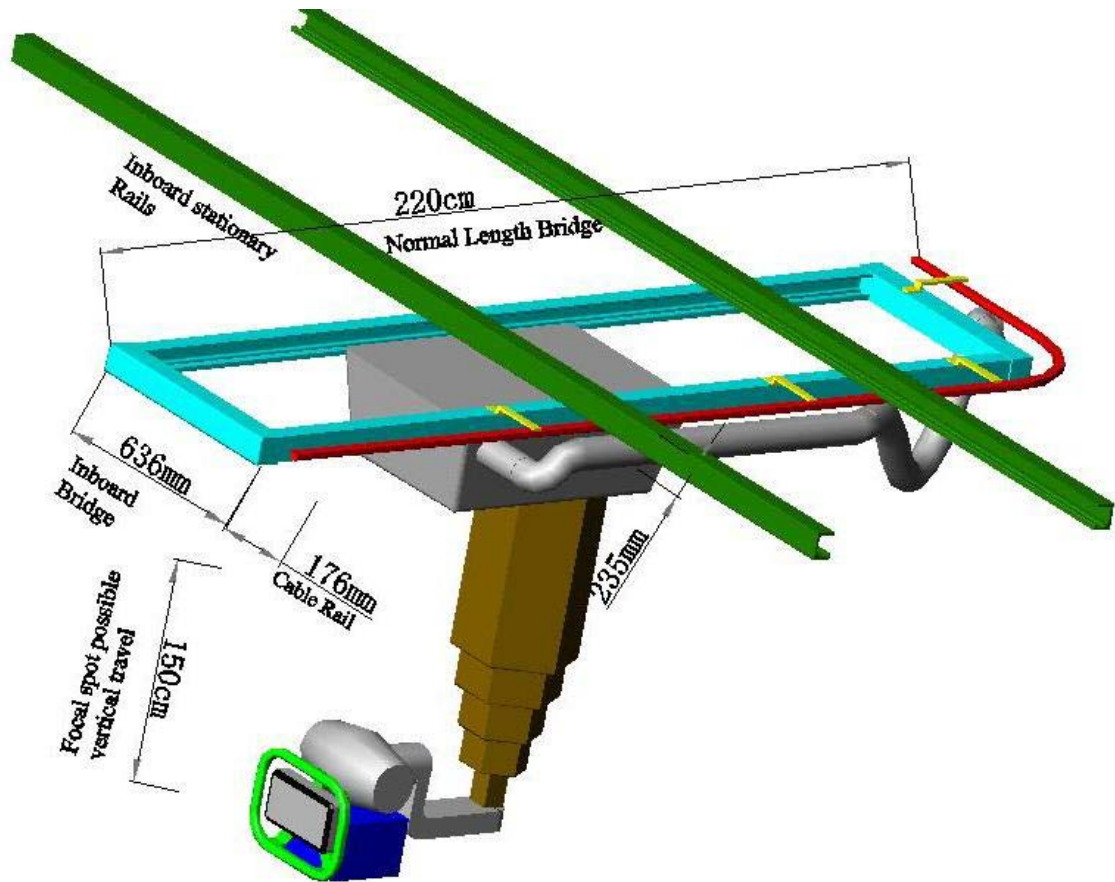
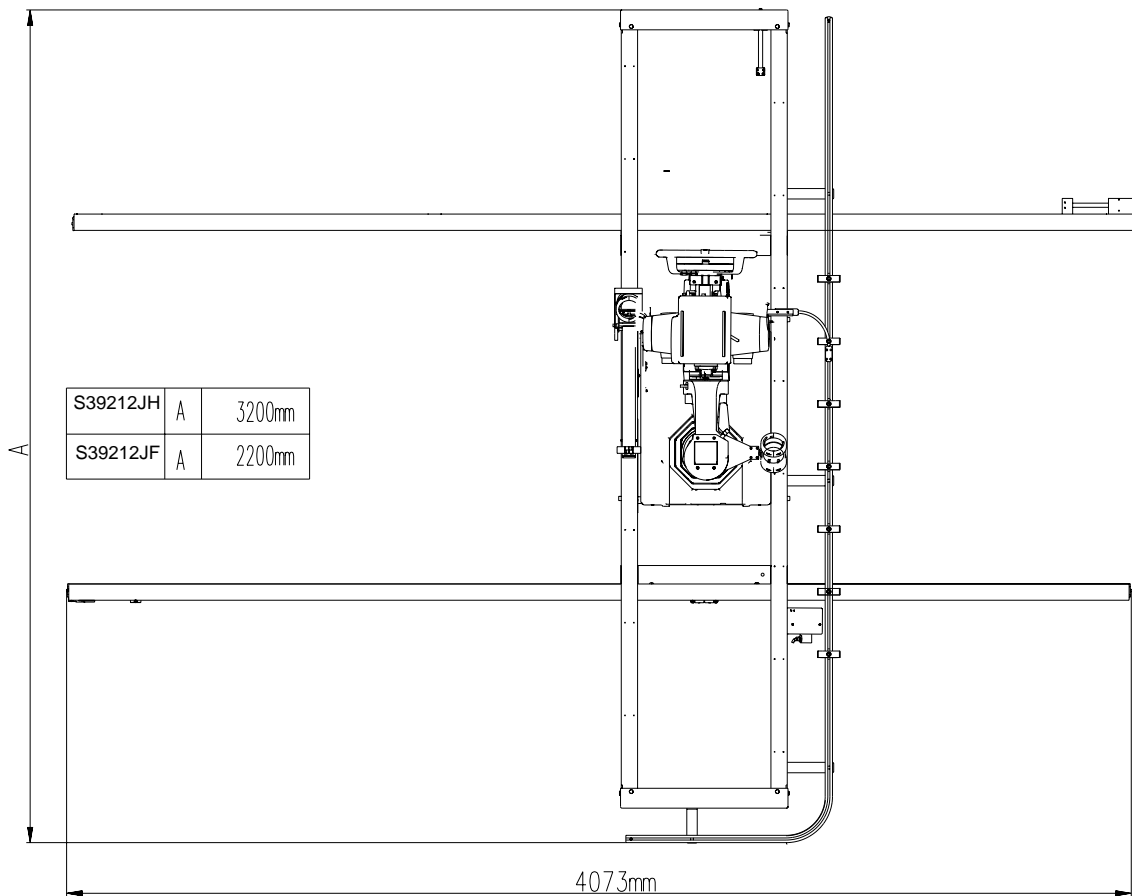

Figure 5-15 OTS Suspension - 2 m Bridge
Figure 5-17 OTS Suspension Foot-End View
- Overhead Tube Suspension (OTS) - Figure 5-15 through Figure 5-24.
Figure 5-15 shows basic overall dimensions for an OTS Suspension. Figure 5-17 through Figure 5-21 give layout dimensions for a typical OTS Suspension System. The equipment arrangements shown are generally preferred since they result in good utilization of equipment for the most commonly used procedures.